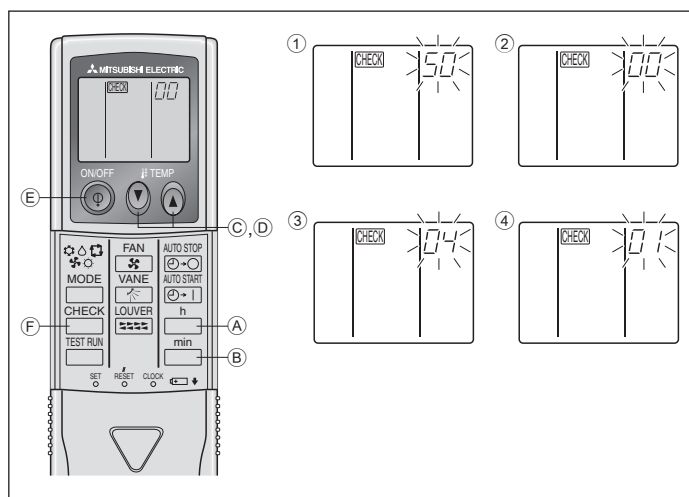

Fig. 6-9
- Press the MODE button (E) and mode and the setting number (I) and (II) will change to being on constantly and the contents of the setting can be confirmed.
- Press the FILTER (A) and TEST RUN (B) buttons simultaneously for at least two seconds. The function selection screen will disappear momentarily and the air conditioner OFF display will appear.
2) For wireless remote controller (Fig. 6-9)